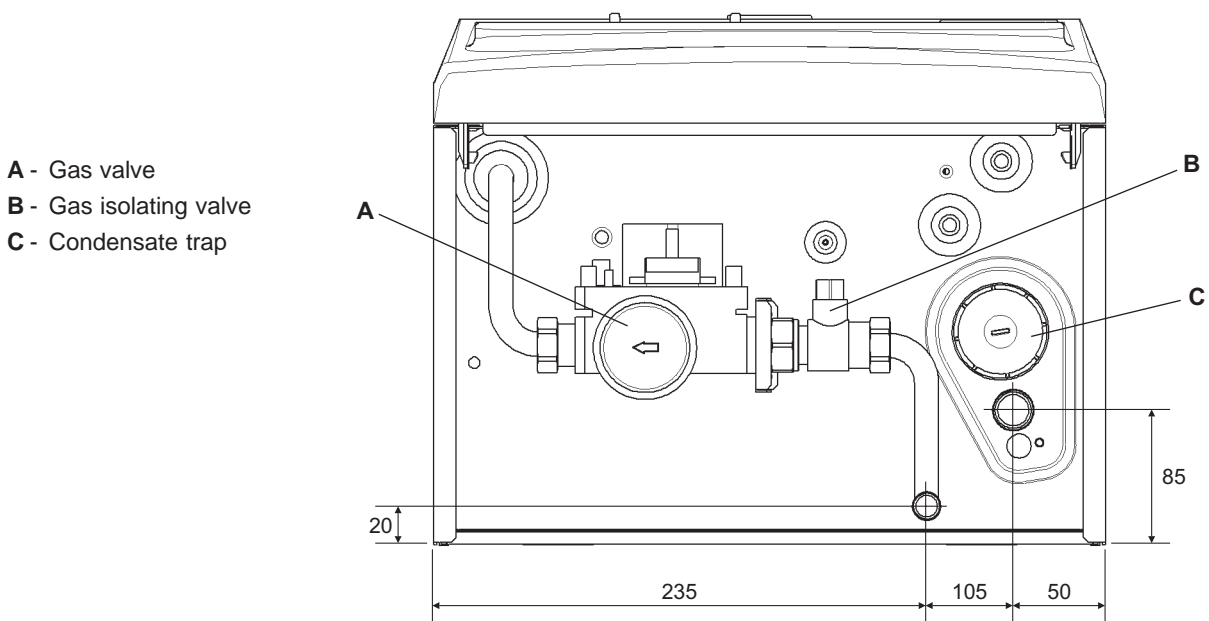

Fig. 13
4.5 CONNECT THE PIPEWORK - Fig. 13